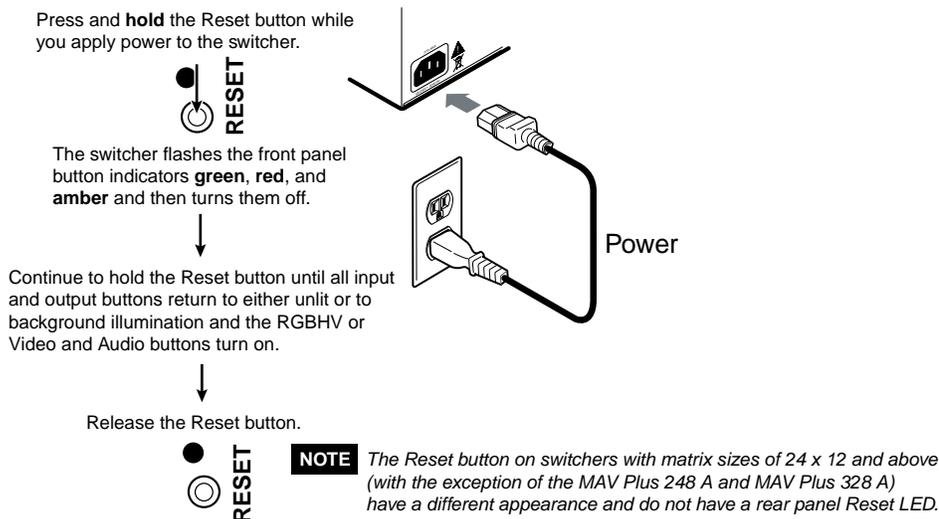

Figure 3-84 — Hard reset
2. Press and **hold** the Reset button on the rear panel **while** you apply AC power to the switcher (figure 3-84).